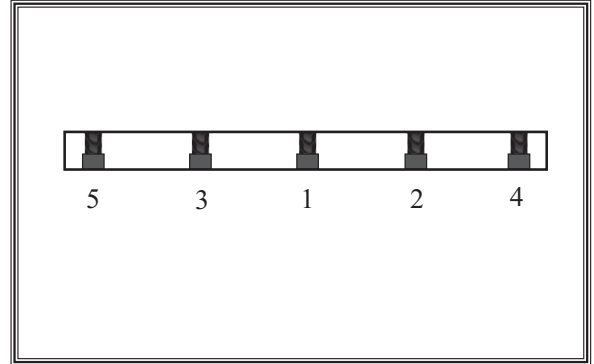

Figure 31. Knife tightening sequence.
2. Alternating back-and-forth, lightly snug the gib bolts by following the tightening sequence shown in **Figure 31**, but **DO NOT** tighten the bolts completely.